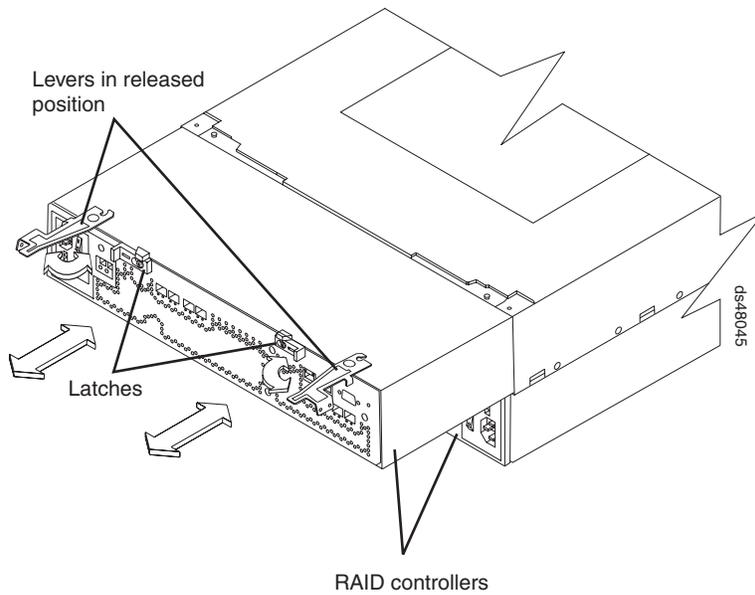

Figure 68. Removing the controller from the storage subsystem
- b. Use the levers to slide the controller from the storage subsystem chassis. (Figure 68 on page 108 shows a controller sliding from the storage subsystem chassis.)